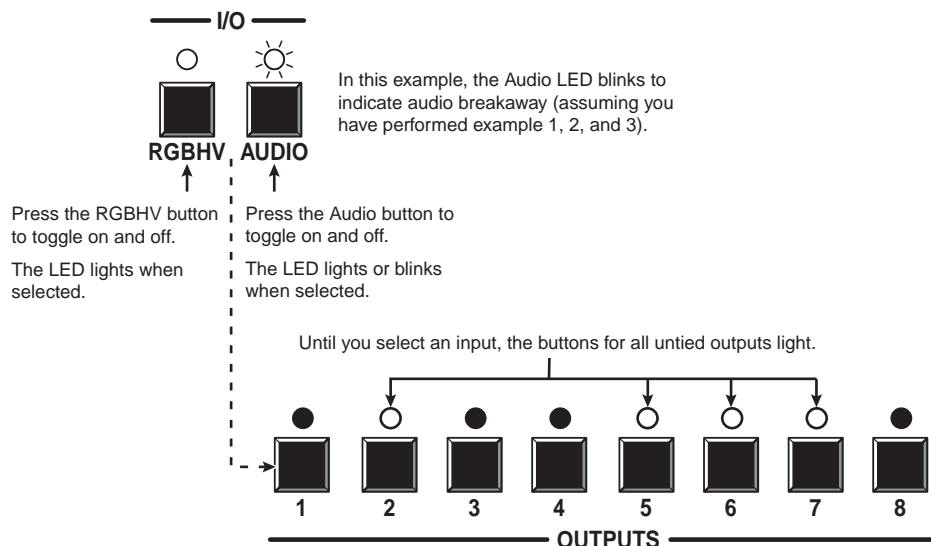

Figure 3-29 — Select RGBHV and audio
- To select both video and audio for viewing and muting, if necessary, press and release the RGBHV button and the Audio button (figure 3-29).